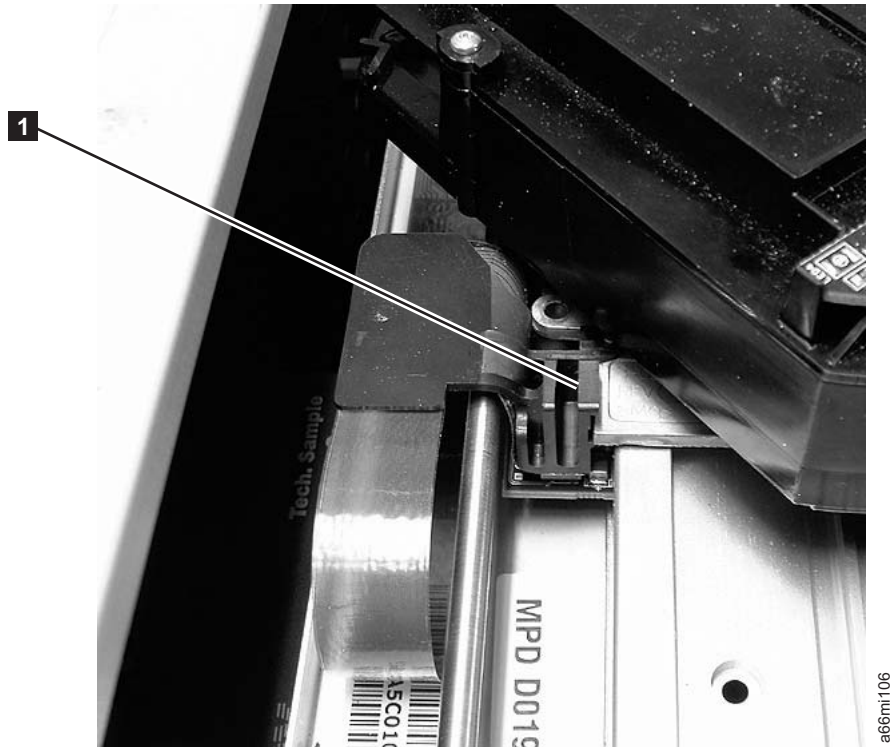

Figure 7-15. Picker assembly connector
6. Visually check, and reseat if necessary, all of the connectors on the Y-axis assembly. See **1**, **2**, and **3** in Figure 7-14 on page 7-26, and also on the Picker Assembly. See **1** in Figure 7-15 on page 7-27.